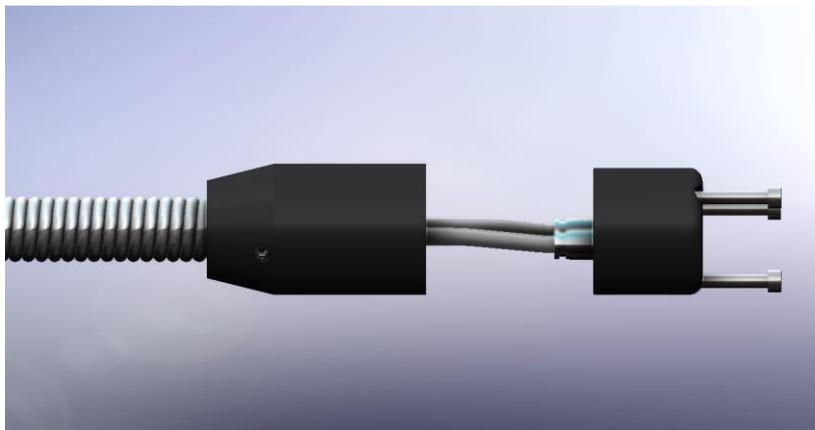

Figure 1
- Remove the Nozzle Holder and remove the Spray Hoses. See *Figure 1*. Page 13.